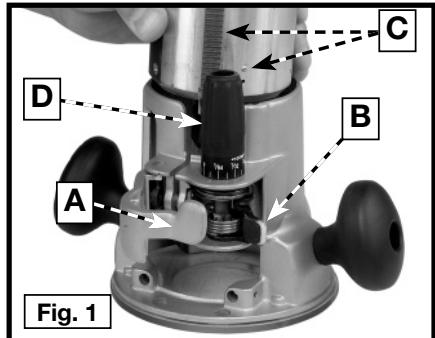

Fig. 1
- Open the clamp (A) Fig. 1.
- Push the lever (B) Fig. 1 toward the power unit.
- Open the clamp (A) Fig. 1 and set motor in the base.
- Align the rack and pin (C) Fig. 1 of the motor with the grooves in the base. Pull the lever
2. Align the rack and pin (C) Fig. 1 of the motor with the grooves in the base. Lower the motor into the base.